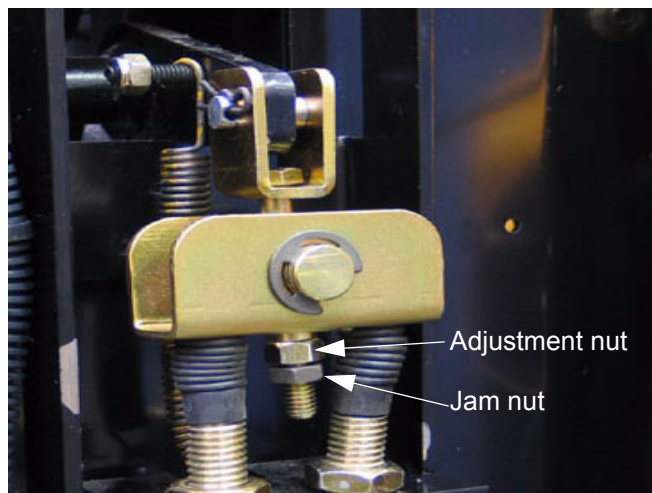

Figure 3.2
- 3.2. Adjust the nut and jam nut on the bolt that joins the clevis (pinned to the brake pedal arm) to the pivot pin that goes through the equalizer bracket. See Figure 3.2.